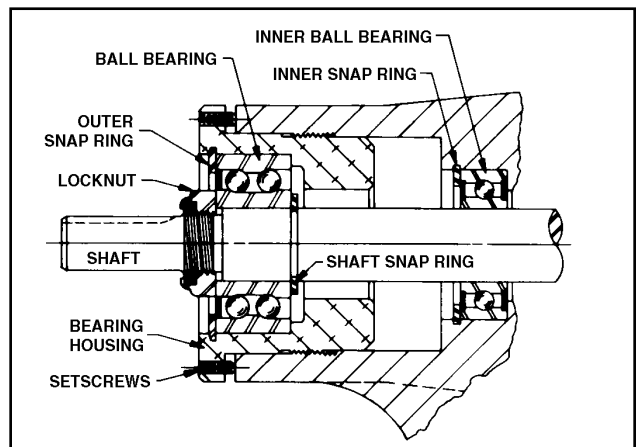
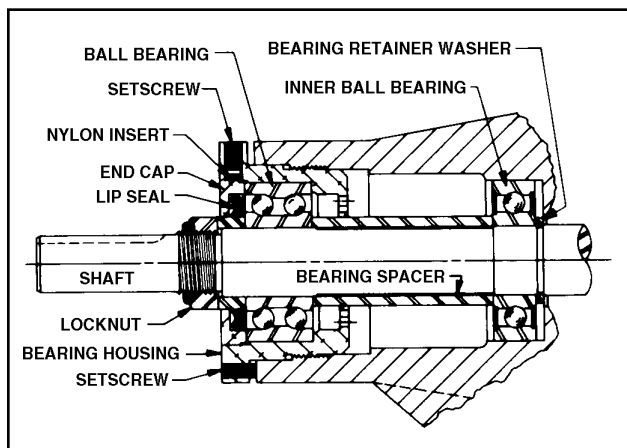

Figure 29 - Thrust-Bearing assembly (GG, HJ, HL)
Figure 30 - Thrust-bearing assembly (AS, AK, AL)
5. Insert a brass bar or piece of hardwood in the port opening and between the rotor teeth to keep the shaft from turning. Turn the locknut counterclockwise and remove locknut. See Figure 29 or 30.
6. Loosen the two setscrews in the face of bearing housing and turn the thrust bearing assembly counterclockwise and remove from casing. See Figure 29 or 30.
7. **GG, HJ, HL**: Remove the snap ring from the shaft. See Figure 29. **AS, AK, AL**: Remove the bearing spacer from the shaft. See Figure 30.
10. **AS, AK, AL:** Remove the bearing retainer washer. The washer may have stayed with rotor and shaft when removed or is against ball bearing. See Figure 30.
GG, HJ, HL: Remove outer snap ring from the bearing housing and remove the ball bearing. See Figure 29.
AS, AK, AL: Loosen the two set screws in flange outside diameter. Rotate end cap and lip seal counterclockwise and remove. Remove the ball bearing. See Figure 30.
13. **GG, HJ, HL:** Install the shaft snap ring in groove in the shaft. See Figure 29.
AS, AK, AL: Install the bearing spacer over the shaft and against the single row ball bearing. See Figure 30.
14. Pack the lubrication chamber between the inner ball bearing and double row ball bearing in the thrust bearing assembly approximately one-half full of multi-purpose grease, NLGI #2. The thrust bearing assembly will take the remaining space. See Figures 29 or 30.
GG, HJ, HL: Install the ball bearing into the bearing housing with shield side toward the coupling end of the shaft. See Figure 29. Install the snap ring into bearing housing to retain ball bearing. This snap ring has a tapered edge to fit tapered groove in bearing housing. The tapered edge is located away from the ball bearing.
AS, AK, AL: Install the ball bearing into the bearing housing. Install the lip seal in the bearing housing end cap. The lip should face towards the end of the shaft. Put the bearing spacer collar in the lip seal and install in the bearing housing and tighten the set screws securely. See Figure 30.
Loosen two screws in face of thrust-bearing assembly. See Figures 29 or 30.